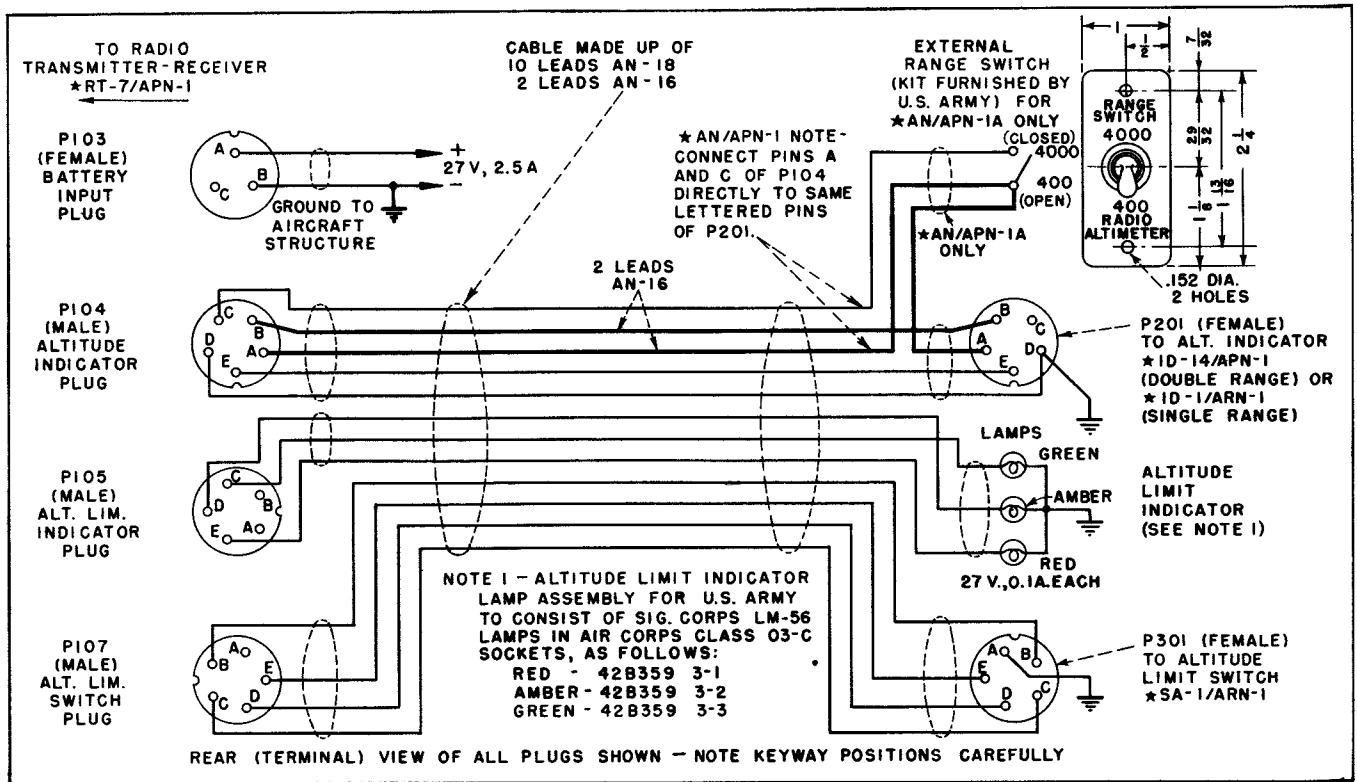

Figure 11—U. S. Army Cable Diagram for Radio Sets ★AN/APN-1 and ★AN/APN-1A
sible. The outline and mounting dimensions of the switch assembly and the necessary connections to the switch are shown at the upper right of the U. S. Army cable diagram, Figure 11. When the external range switch is in the "4000" position, the scale of the Altitude Indicator ★ID-1/ARN-1 will read directly in thousands of feet, instead of in hundreds of feet as marked.
a. GENERAL.—The cable connections between the units are shown on the equipment interconnection diagram, Figure 22. (U. S. Army personnel refer also to Figure 11.) Since the cable lengths are determined by the requirements of the particular installation, the cable materials are furnished unassembled, as listed on the cable outline assembly drawings, Figures 30, 31, 32 and 33. (With the exception of the plugs P103 and P105 for attaching to the Radio Transmitter-Receiver, materials are not supplied for either the battery input or the altitude limit indicator cables.) All the cables should be as short as possible after meeting the following requirements:
In U. S. Army installations, the connections from the Radio Transmitter-Receiver to the Altitude Indicator, Altitude Limit Switch and Altitude Limit Indicator will be made by means of an external "harness" composed of individual conductors as shown for Radio Sets ★AN/APN-1 and ★AN/APN-1A in Figure 11. The standard 8-wire shielded cable WM-1/U (W503A, W504A), supplied for fabricating cables W503 and W504, will not be used in U. S. Army installations.